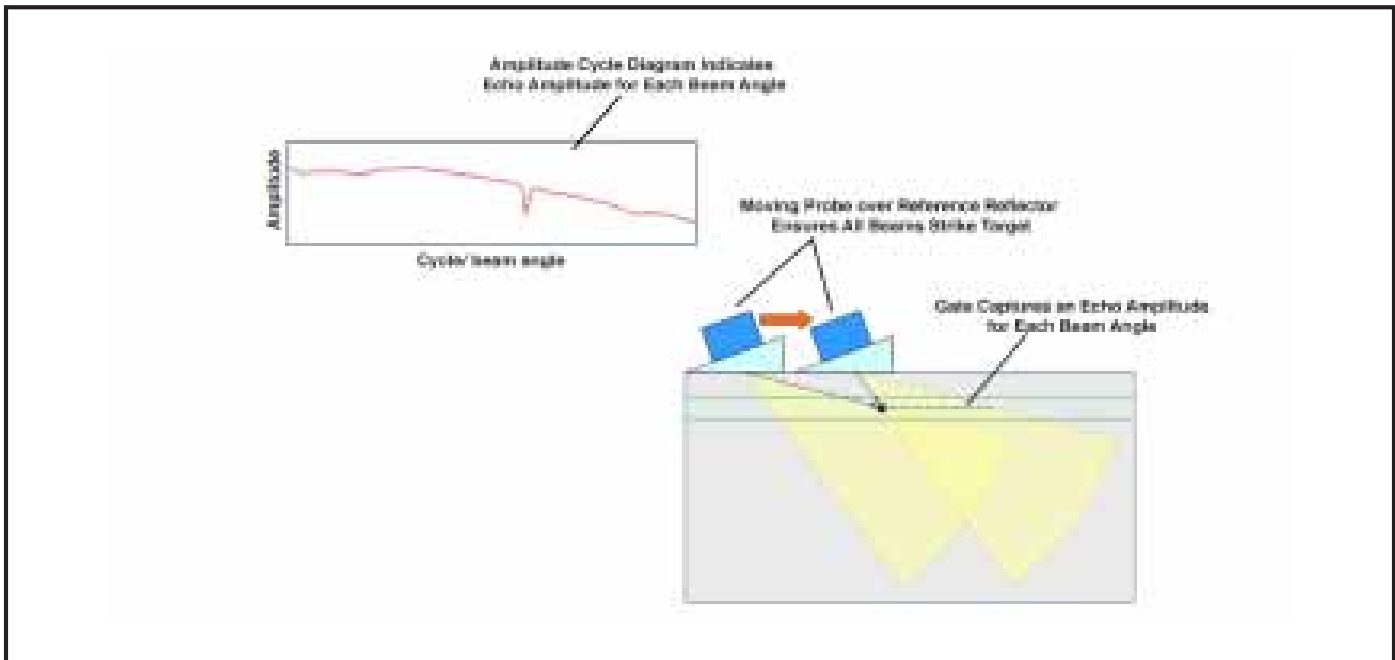

Figure 33: The Amplitude Cycle Diagram indicates the TCG-reference amplitude recorded at each beam angle.
To account for the effect of beam angle on echo amplitude, TCG reference recording requires that each reference reflector be detected by every beam angle (described in Section 3.7.3). Alternatively, TCG points can be manually entered as described in Section 3.7.4. To ensure that the reference reflector is detected by each beam angle, the Amplitude-Cycle-Diagram is displayed along with the sector scan throughout the standard recording process. Created as the probe is moved over the reference reflector (Figure 33 on page 70), this curve represents the reflected amplitude obtained for each beam angle. The instrument requires that a valid amplitude be measured for each beam angle before the TCG reference point can be recorded (Section 3.6.1).
1. Press  next to the BEAM GROUP Function (identified in Figure 33 on page 70).